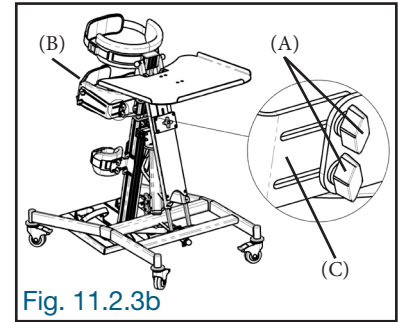

Fig. 11.2.3b
Slightly loosen the locking knobs (A) at the back of the hip pad block (B). Slide and adjust the lateral pads (C) to the user's hips. Once adjusted, firmly tighten the locking knobs (A) (Fig. 11.2.3b).